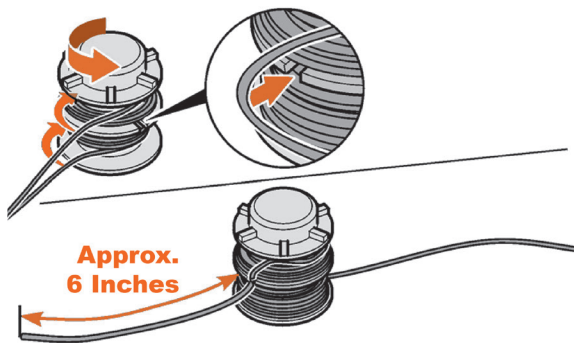

Figure 20
3. Press the line ends, approx. 6 inches (15 cm) into the two opposing retaining slots (see Figure 20).